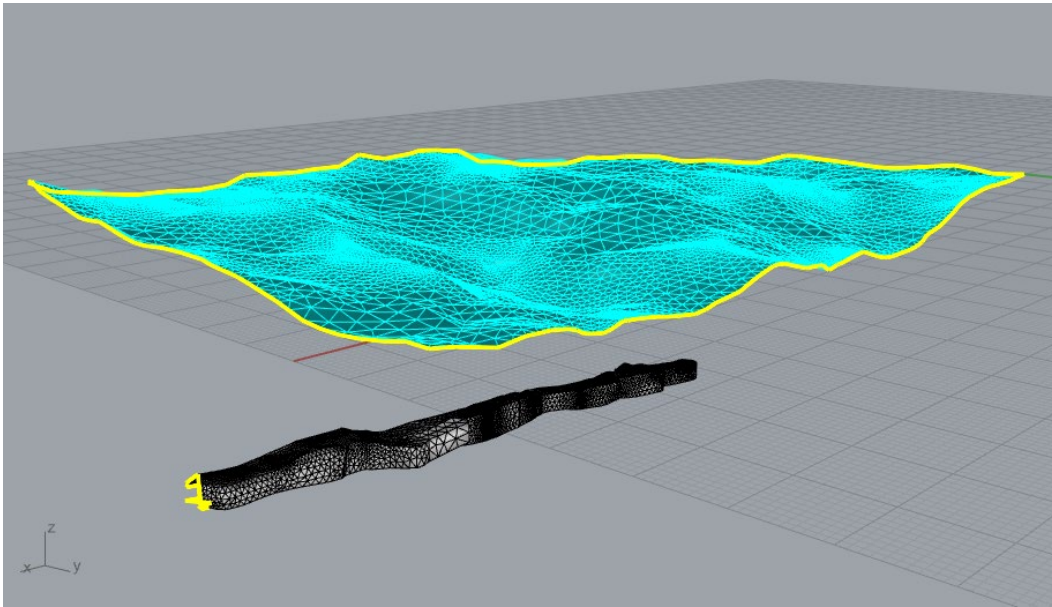

Figure 69: Remeshed and fixed meshes with remaining naked edges selected.
13. Double check the meshes for issues by selecting both and running **GHeal** → *ShowErrors* one last time. The output should match that of Figure 69.